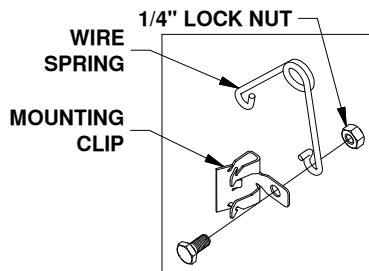
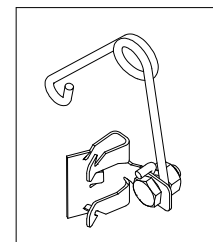

Figure B1: Leveling kit parts.
Figure B2: Assembled leveling kit.
1. Locate the 1/4" cap screw and nut, along with the wire tension spring and mounting clip. Pass the 1/4" cap screw through the mounting clip and the wire spring as shown in Figure B1. Thread the 1/4" lock nut onto the 1/4" cap screw. Tighten the lock nut just enough that the spring will stay in place but will still be able to rotate around the bolt if needed, see Figure B2.